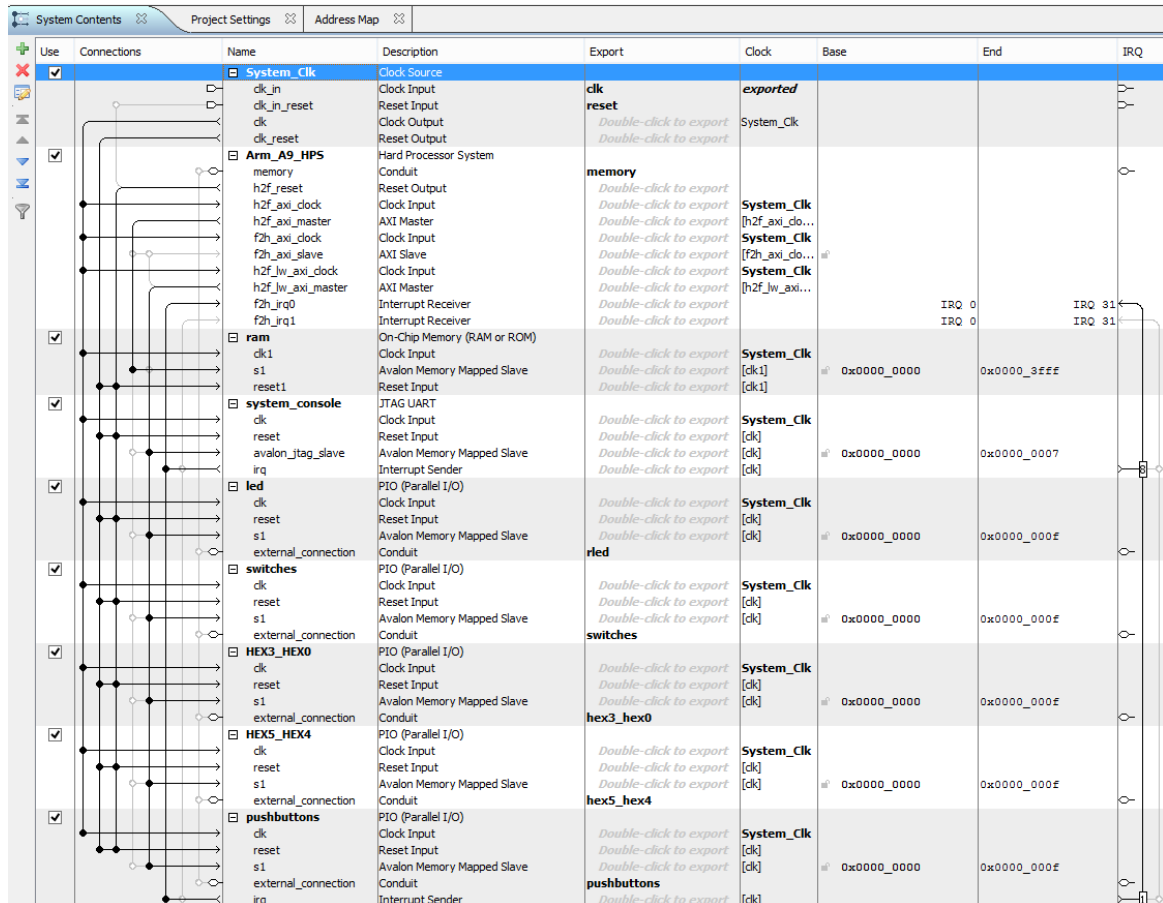

Figure 4. Connection Layout
21. The possible system connections are displayed in the Connections column in the System Contents tab. Connect the system to the clocks, reset, and data lines. Clicking on the bubbles will connect each component to each other. A bold solid line indicate a successful connection. As the connections are made you see the Errors in the Description Tab will decrease. Your design should look like Figure 4.